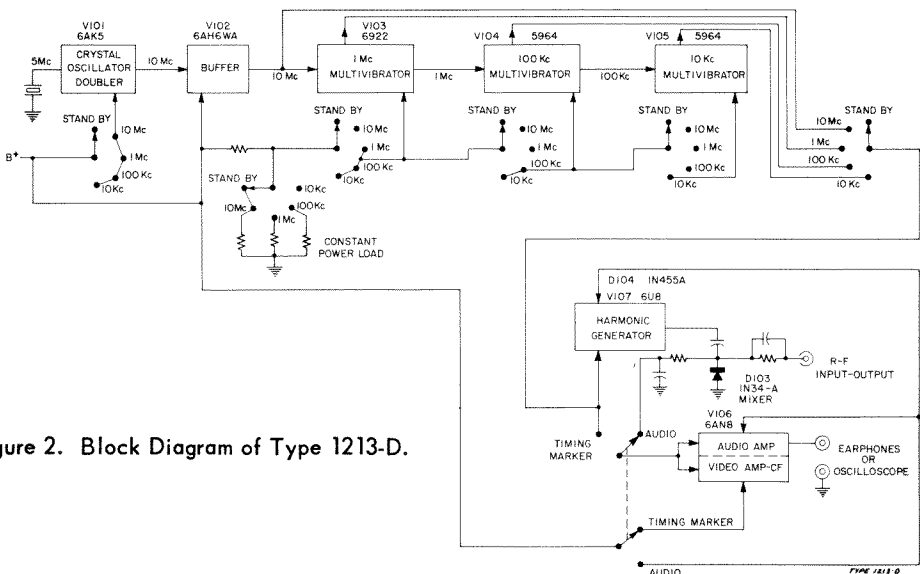

Figure 2. Block Diagram of Type 1213-D.
**1.2.1 GENERAL.** The basic circuits, shown in Figure 2, are: